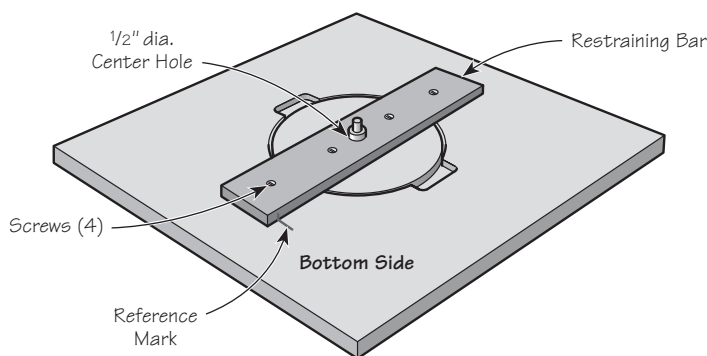

Figure 4: Fitting of the restraining bar.
6. Make the restraining bar shown in **Figure 4** (from scrap wood) 2" to 3" wide, and 13" to 15" long. The thickness of the bar should not be greater than the scraps of wood that were previously used to elevate the table top (ref. *step 4*). Drill only the $\frac{1}{2}$ " diameter hole in the center of the restraining bar. While the top is still inverted, attach the restraining bar with four screws as shown, using the alignment pin to ensure that the $\frac{1}{2}$ " hole in the bar remains concentric with the $\frac{1}{2}$ " hole in the top. Make an identifying reference mark on the restraining bar and adjacent table top surface, so the bar can be removed and replaced in the exact same position if necessary.